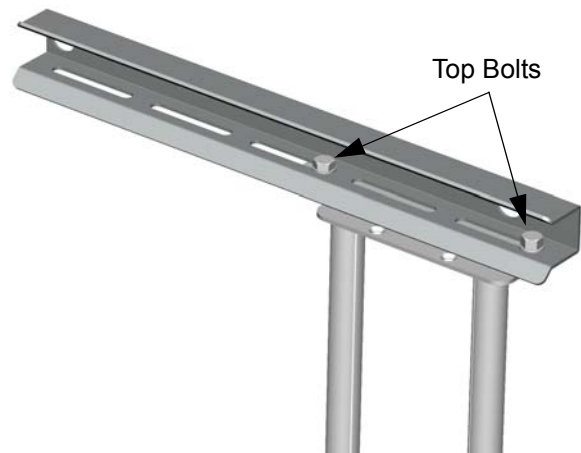

Figure 14. Adjust Swing Arm – Right of Center
- For right of center, see Figure 14.
5. Install four bolts (two on the top and two on the bottom) to secure the swing arm assembly to the top and bottom mounting brackets (see Figure 14).